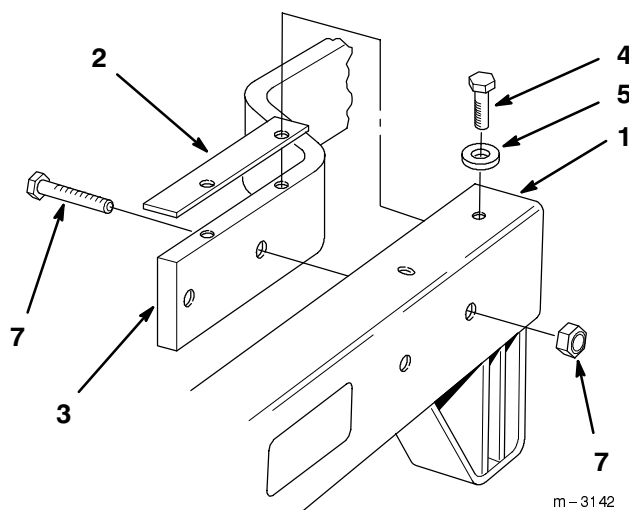

Figure 3
1. Align the carrier frame and shim holes with the mounting holes in the traction unit frame (Fig. 3).
2. Fasten each side of the carrier frame to the traction unit with (2) 3/8-16 x 7/8" (22 mm) bolts and washers, down from the top, and (2) 3/8-19 x 1-3/4" (44 mm) bolts and 3/8-16 locknuts, through the side (Fig. 3).
3. Torque the mounting screws to 240-320 in-lb (27-36 N•m) (Fig. 3).